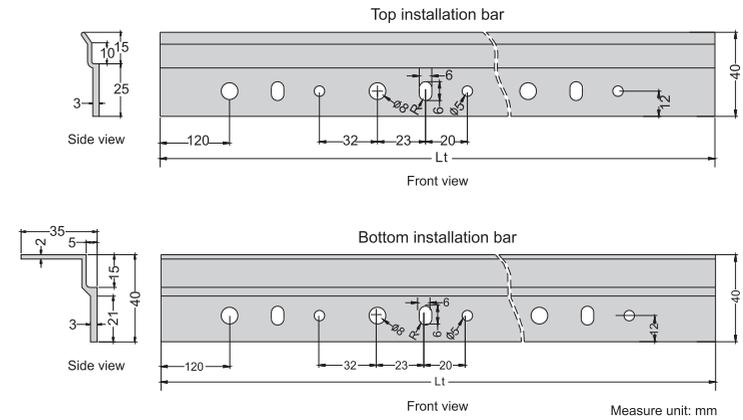

Figure 22
2. Each screen is equipped with a top and bottom installation bars with many sets of holes, three of which belonging to one set. Installation bar specifications on Figure 22.